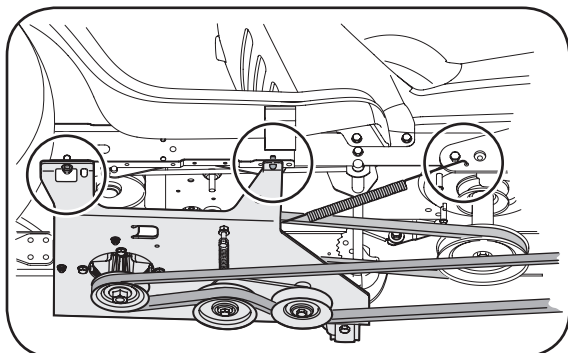

Figure 23
4. Connect the extension spring found in your units loose parts that was mentioned earlier. This spring connects to the idler bracket on the undercarriage assemble and the hole on the rear right-hand snow thrower mounting bracket. See Figure 23.
5. Attach the lower auger drive belt by routing it around and through the pulley system as seen in Figure 23.